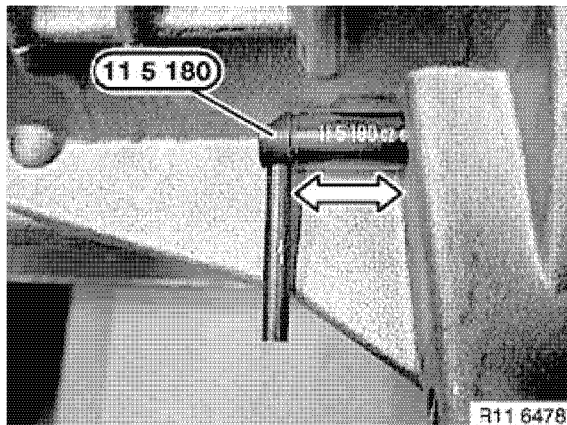

Figure 5-11
10. Rotate crankshaft using the crankshaft dampener bolt until No. 1 cylinder is at TDC. Secure flywheel using flywheel holding tool OEM No. 11 5 180 (**Figure 5-11**).